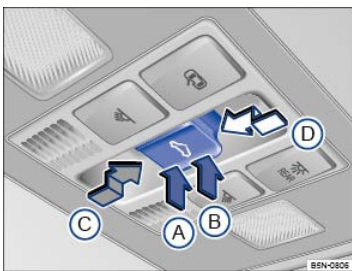

Fig. 71 In the headliner: Power sunroof switch.
The ☁ switch ⇒ Fig. 71 has two detents for each switch position (A, B, C, and D).
- Press the  button ⇒ Fig. 71 within about 5 seconds after the sunroof has stopped and hold it in the direction of the arrow  at the second detent until the power sunroof closes completely.